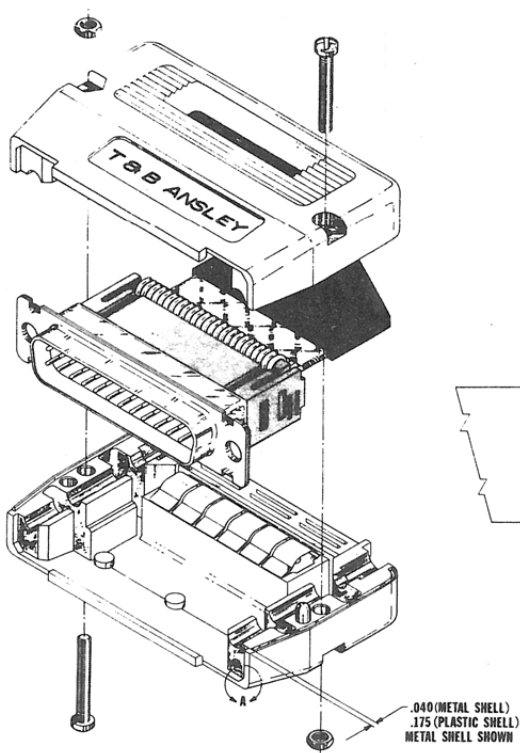

FIG. 1 EXPLODED VIEW WITH MALE "D" CONNECTOR
3. Bend cable as shown in Fig.1.